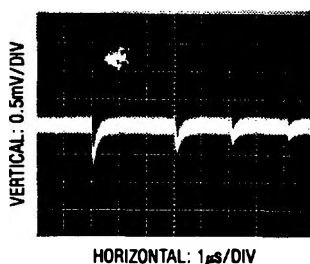

Figure 15. Adequate Reference Settling
1. Transients on the reference inputs caused by the capacitive switching currents must settle completely during each bit test (each 4 ACLK cycles). Figures 15 and 16 show examples of both adequate and poor settling. Using a slower ACLK will allow more time for the reference to settle. However, even at the maximum ACLK rate of 4MHz most references and op amps can be made to settle within the $1\mu\text{s}$ bit time. For example the LT1027 will settle adequately or with a $10\mu\text{F}$ bypass capacitor at REF⁺ the LT1021 can also be used.